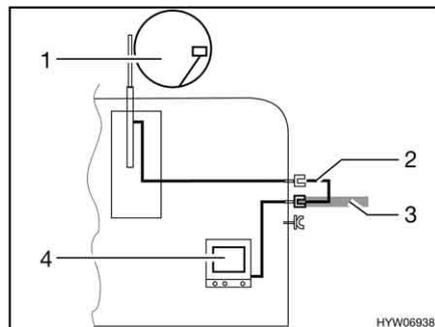

Fig. 170 TV inside the vehicle
- TV inside the vehicle (Fig. 170,4): Connection to roof antenna (Fig. 170,1) with connection cable (Fig. 170,2)
- TV inside the vehicle (Fig. 170,4): Connection to external antenna (Fig. 170,3)